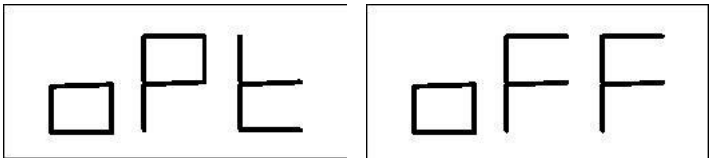
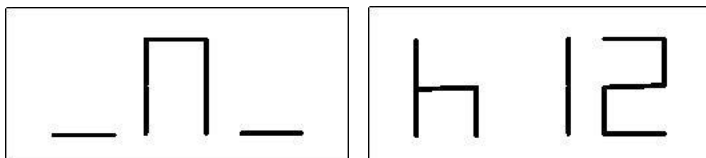

Fig. F5.2 Optimisation Programme not possible
Fig. F5.3 - “Bring the valve to the 12 o’clock position” message
2. If the wheel's static imbalance is less than 12 grams, the machine will display the message shown in Figure F5.2 for a second and then will automatically exit the optimisation programme. If the wheel's static imbalance is instead greater than or equal to 12 grams, the message shown in Figure F5.3 will be displayed;
7. At the end of the cycle, the message seen in figure F5.3 will be displayed. Two options are available: